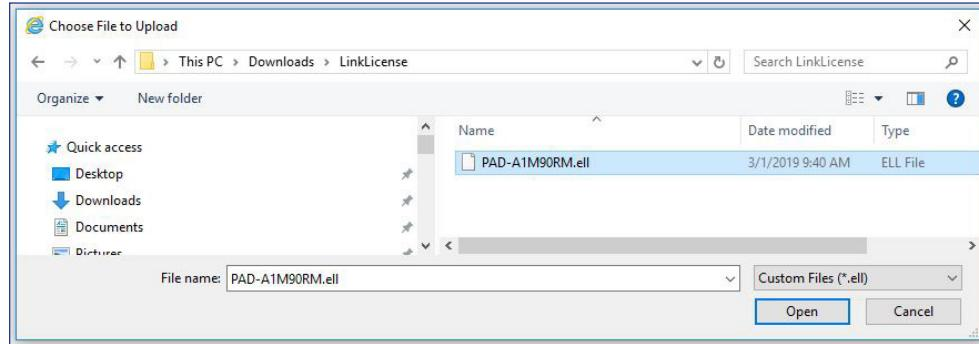

Figure 60. Explorer Window
1. On the LinkLicense panel (see below), click **Select File**. This opens an Explorer window (see **figure 60** on the next page).
2. Browse to the location of the LinkLicense and select the LinkLicense file with .ell file extensions (see figure 60).